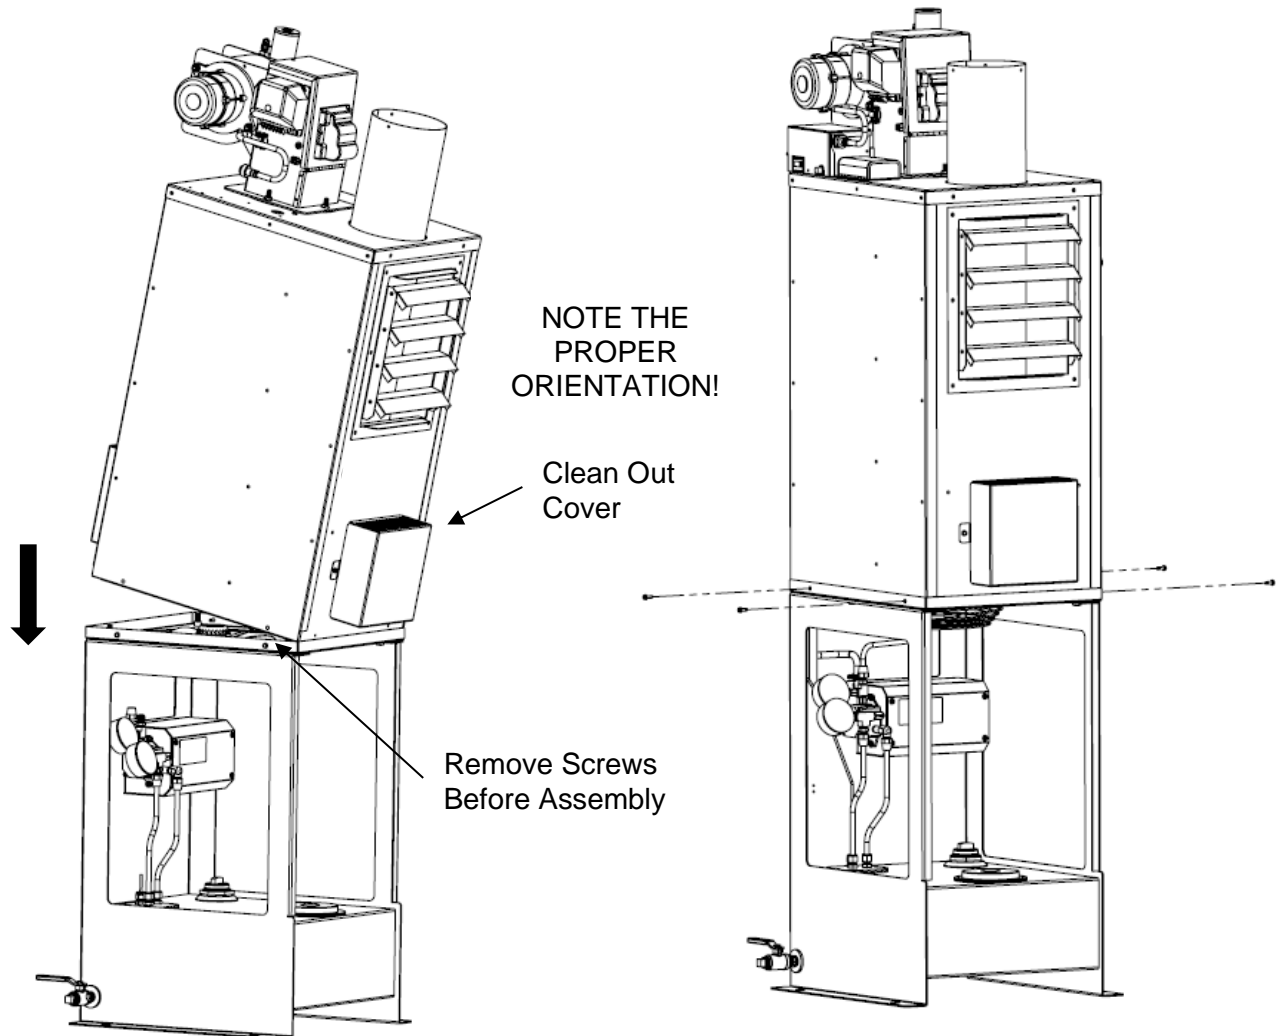

Figure 2.2 – Assemble the Sections
3. Remove the four ¼-20 screws from the bottom sides of the cabinet using a 7/16" nut driver or wrench. Set them aside for use later. (Refer to Figure 2.2 below.)